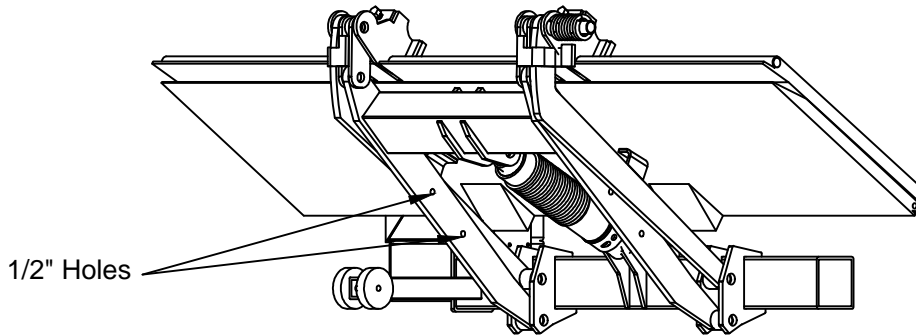

Figure 3: Liftgate at stowed position.
2. **Raise** the liftgate to the stowed position to grant access to the four 1/2" holes on both arms as shown (Figure 3).